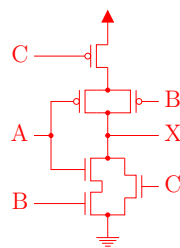

Figure 3: CMOS schematic of the **qux** gate
1. We can observe that the **qux** output is 1 if and only if the **C** input is 0 and at least one of **A** or **B** is also 0. This immediately gives the network of P transistors between the power supply and the **qux** output: a P transistor which grid is **C** in series with a group of 2 P transistors in parallel which grids are **A** and **B** respectively. This way, if **C** is not 0 or if **A** and **B** are 1 there is no path between the power supply and the output, while in all other circumstances there is such a path and the output is 1. As always with CMOS logic the network of N transistors between the ground and the **qux** output is dual of the network of P transistors: a N transistor which grid is **C** in parallel with a group of 2 N transistors in series which grids are **A** and **B** respectively. The CMOS schematic is represented on Figure 3.